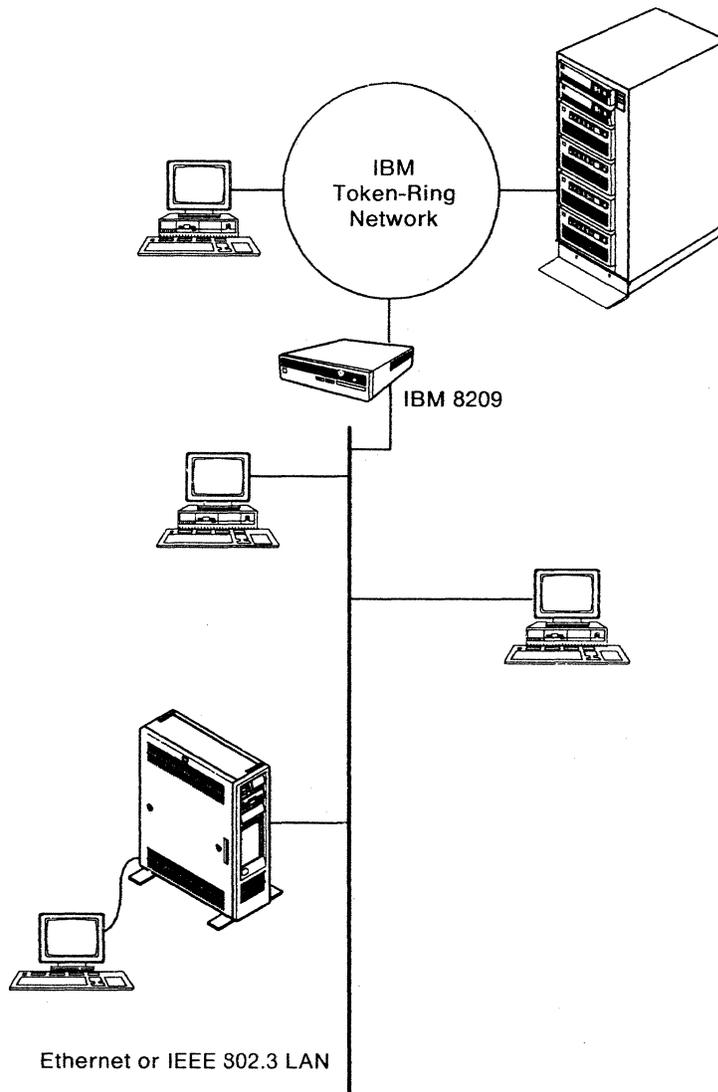

Figure 1-2. The IBM 8209 between IBM Token-Ring and Ethernet Networks
A simplified network connection diagram using the IBM 8209 is shown in Figure 1-2 on page 1-2. In this figure, the IBM 8209 connects an IBM Token-Ring Network segment and an Ethernet\*\* or IEEE 802.3 LAN segment.
- Stations that are connected to a single IBM Token-Ring Network segment and stations that are connected to another LAN segment, with both LAN segments connected to the same IBM 8209 (as shown in Figure 1-2 on page 1-2).